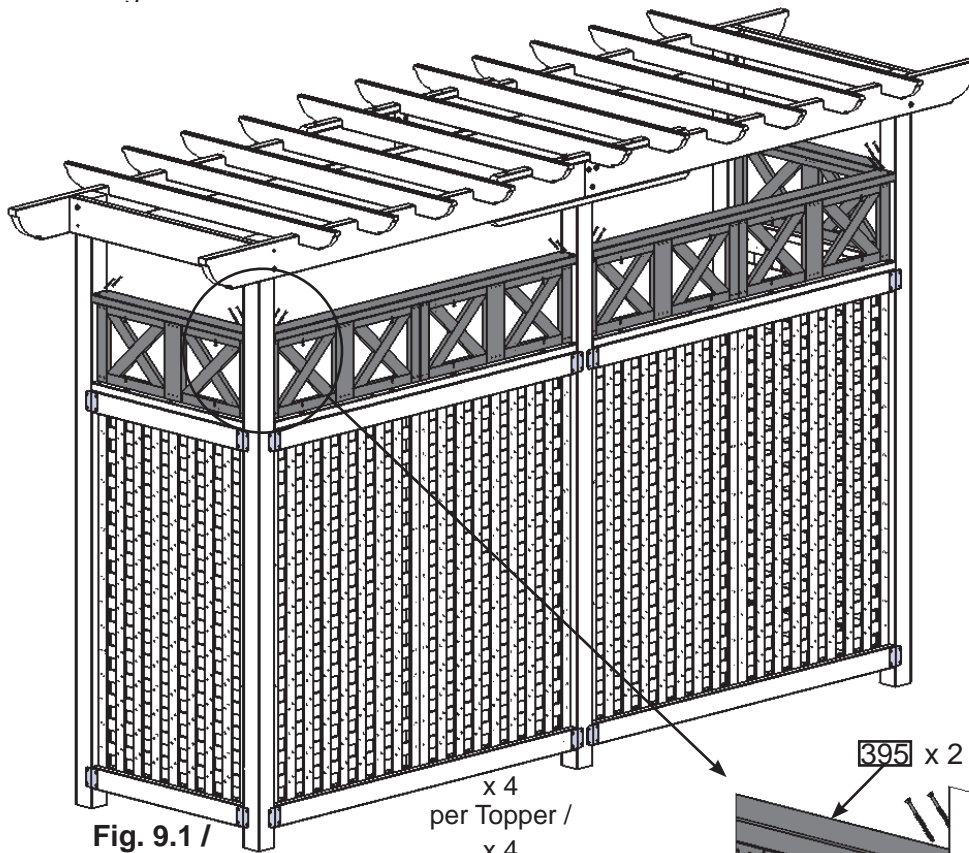
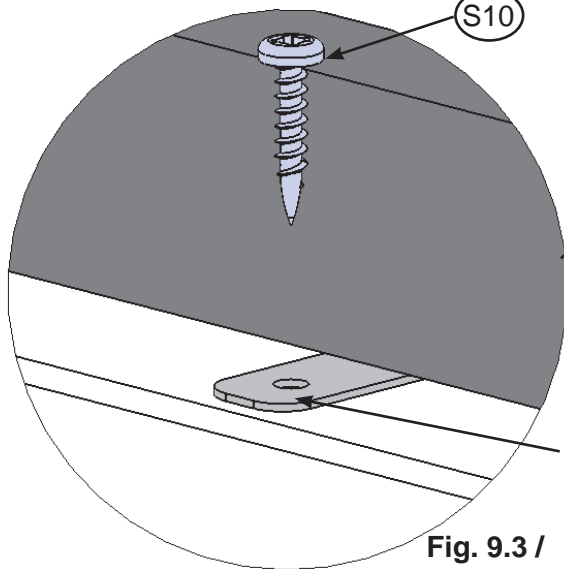

Fig. 9.1 /
Fig. 9.3 /
A: Secure Topper Panels to upper (395) and (397) as shown in fig. 9.1, 9.2 using bottom Topper mount clips shown in fig. 9.3.